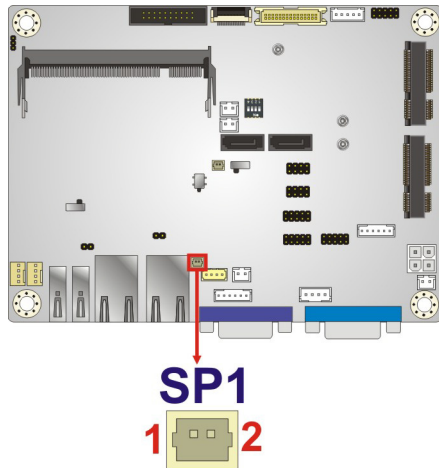

Figure 3-5: Buzzer Connector Location
- CN Location: See **Figure 3-5**